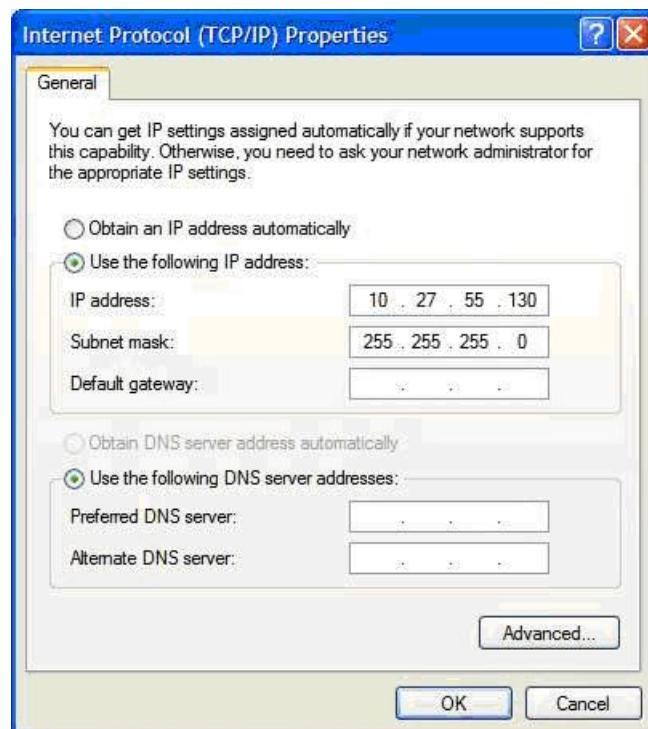

Figure 5-5: IP Address Settings on the PC
- 1 Open the PC Ethernet port properties and select *Use the following IP address*. Then specify the new address (for example: 10.27.55.130 in Figure 5-5) and the subnet mask (Usually 255.255.255.0).
- 5 Set the IP address to be in the same range as the PC port (for example: 10.27.55.131 in Figure 5-5 on page 5-11) and click *Apply*.